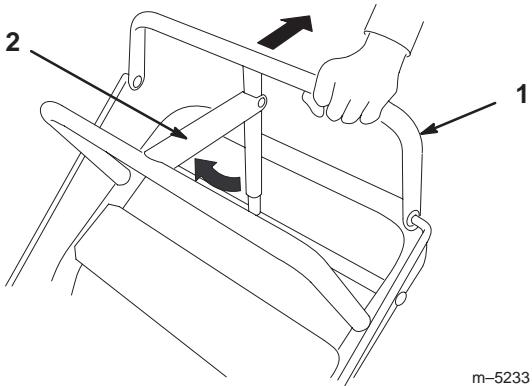

Figure 9
- Check parking brake adjustment. Brake rods should be adjusted so parking brake lever is tight when swung into position against the fixed bar while pulling back on upper control bar (Fig. 9).